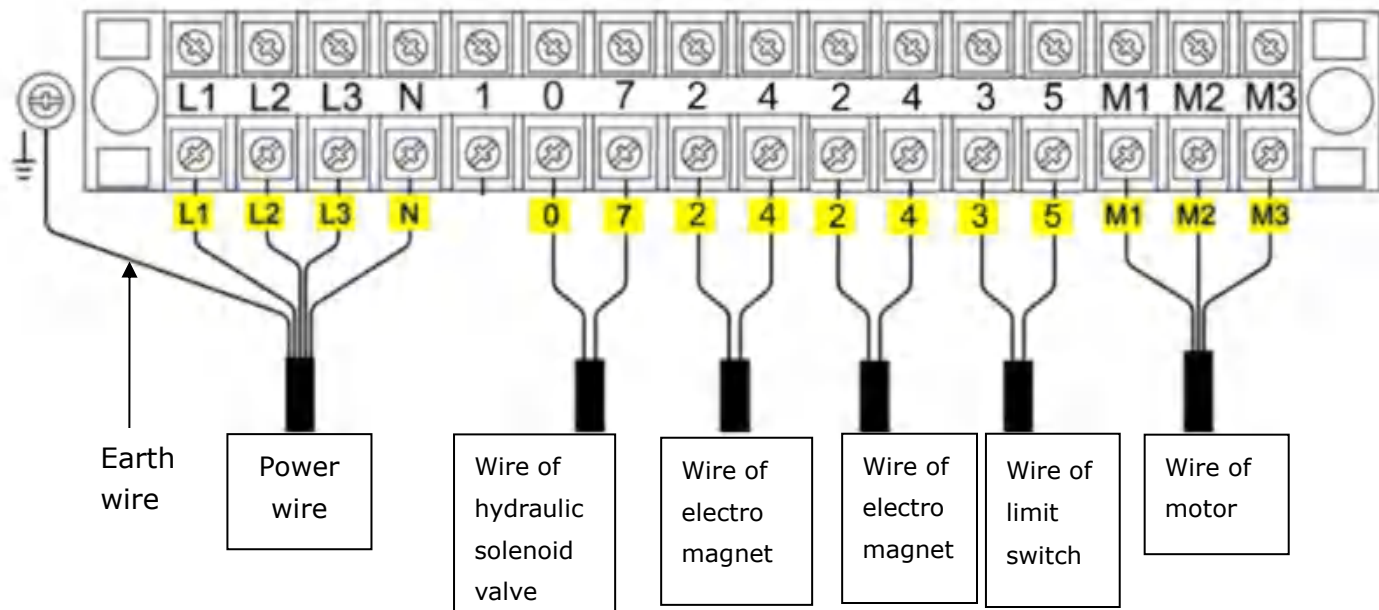

Fig. 31
2.1 Wire connection diagram in the control box (See Fig. 31)